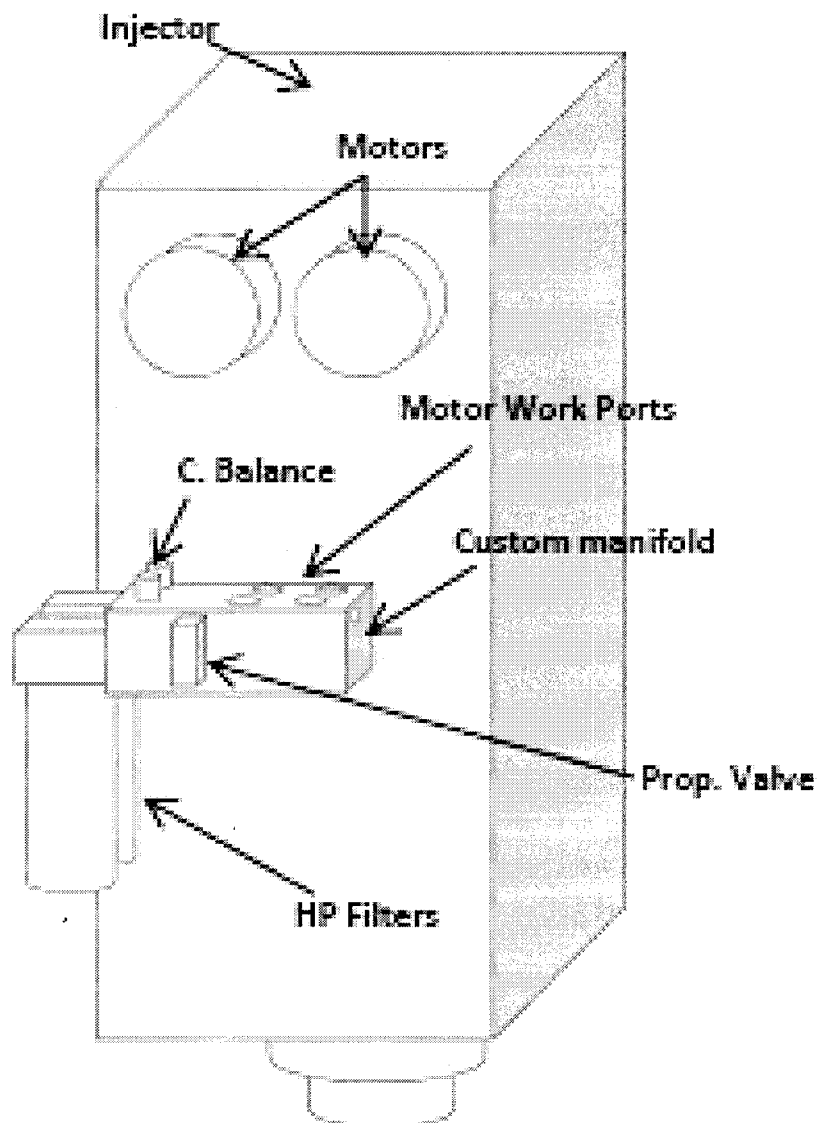

Figure 22
- the detailed description makes reference to Fig. 22 only in par. [0059], and without any reference to the elements in the figure.